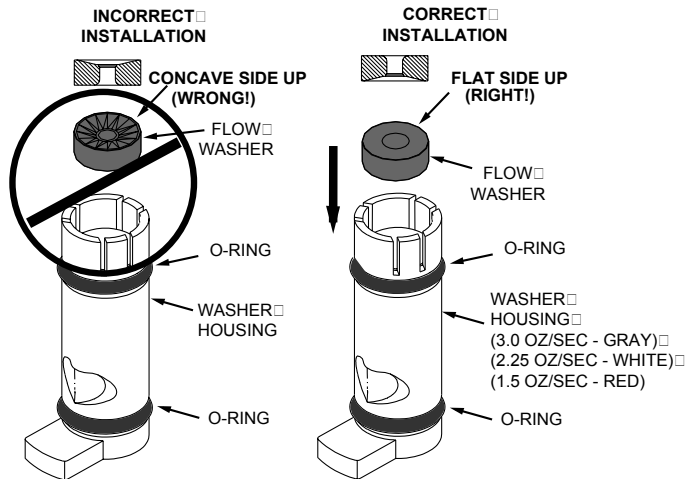

Figure 2
- 1.3 The correct procedure for installing the flow washer is illustrated in Figure 2.